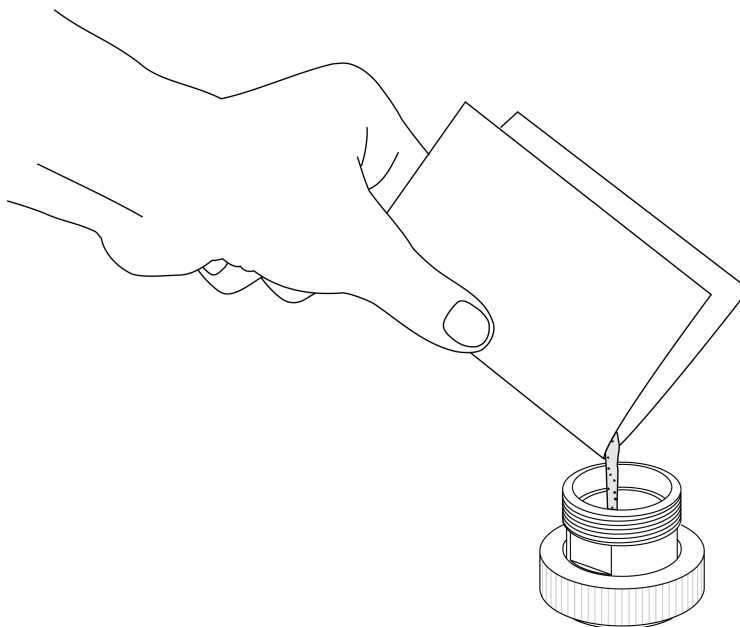

Figure 2-3. Filling the 3 mL RV with resin
3. Add the appropriate amount of resin to the 3 mL RV (Figure 2-3) Refer to Section 4 : *Chemistry* for resin quantity specifications.